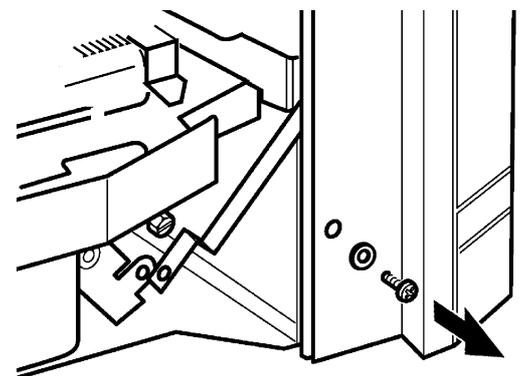

Figure 37. Fascia bottom location (Fascia may differ from that shown)
3. Remove the two screws and washers securing the bottom of the fascia to the sides of the hotbox (See figure 37).